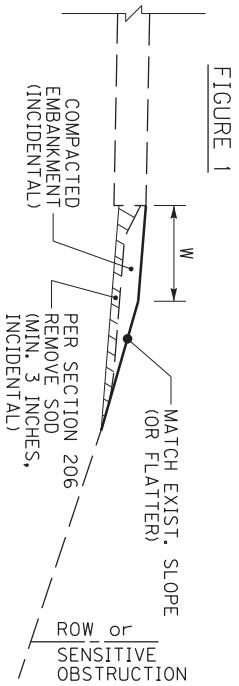

FIGURE 1
3. AS SHOWN IN FIGURE 1, IN SOME SITUATIONS, MINOR SHOULDERING, WITH MINIMAL ADDITIONAL EARTH MATERIAL, MAY BE ALL THAT IS REQUIRED TO RESHAPE THE EARTH SHOULDER TO THE PROPOSED WIDTH AND BRING IT FLUSH WITH THE EDGE OF PAVEMENT.